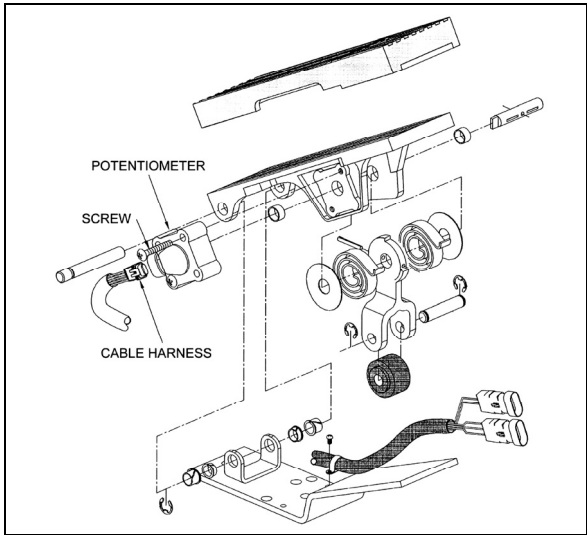

FIGURE 15: ELECTRONIC FOOT PEDAL ASSEMBLY 03035
3. Discard potentiometer (Fig. 15).
4. Position new potentiometer. Press potentiometer onto the potentiometer shaft, matching cutouts in shaft to drive tangs of potentiometer. Apply hand pressure until potentiometer has bottomed out in housing. Reinstall screws (Fig. 15) and tighten just enough to secure potentiometer lightly. Tighten screws to 10 - 20 Lbf-in (1.13 - 2.26 Nm).